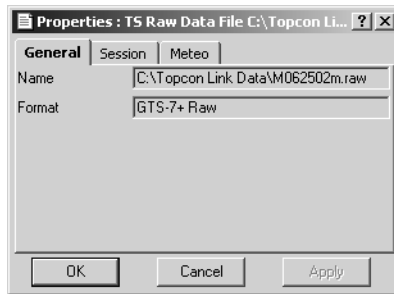

Figure 4-23. Properties for TS Raw Data File – Session
- displays date, instrument, job, survey's name, and note data in the Session tab (Figure 4-23).